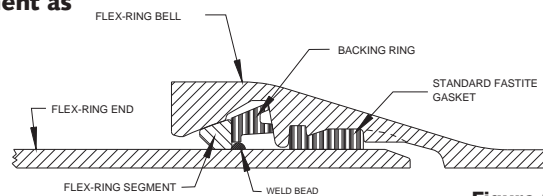

Figure 3
- 1. First straighten the joint as much as possible and push or pull the spigot back into the bell until it "bottoms out" in the rear of the socket. (Fig. 3)**